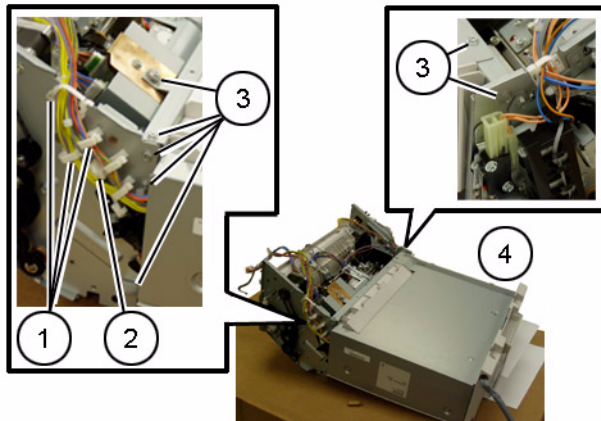

Figure 3 Removing the Stacker Tray
10. Remove the Stacker Tray (Figure 3):